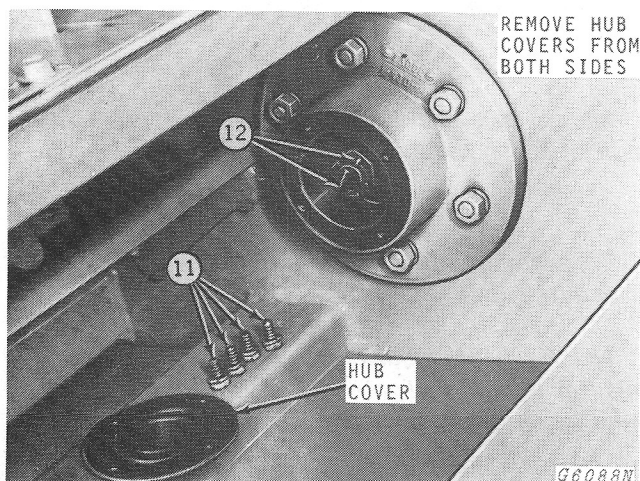

Fig. 9-Removal of Cover from Inside Axle Hubs
11. Remove inside axle hub covers by removing four cap screws (Fig. 9).